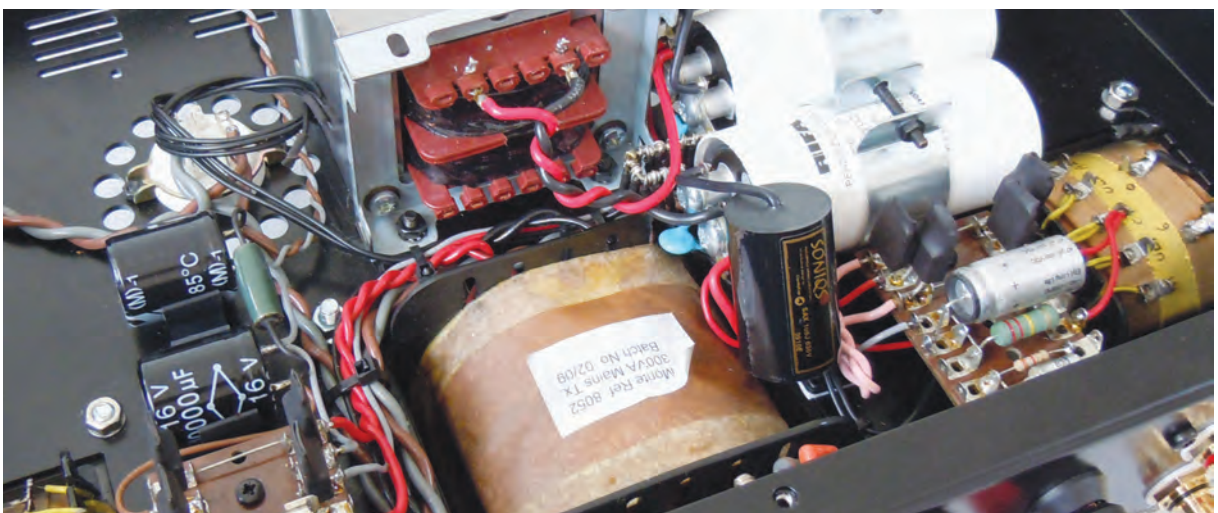

Fig. 21 HT Power Supply
**Figs. 21 / 22** Using approx 250mm grey wire link the junction of D7 / D8 (18) on the first PS board to the junction of R25 / C16 / R26 (25) on the second. Route the wire tidily between the choke and the mains transformer.